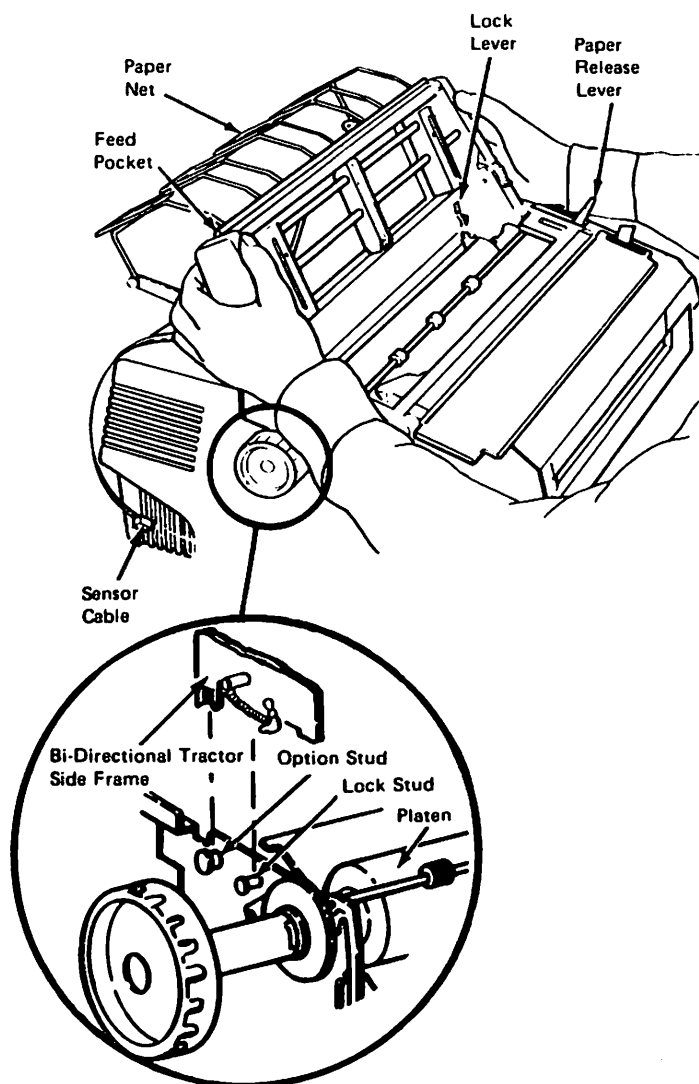

Figure 8 Installing bi-directional forms tractor
5. Position the right and left lock levers toward the rear of the bi-directional forms tractor and position the bi-directional forms tractor on the printer (Figure 8). The slots in the tractor frames fit onto the option and lock studs on the printer side frames.